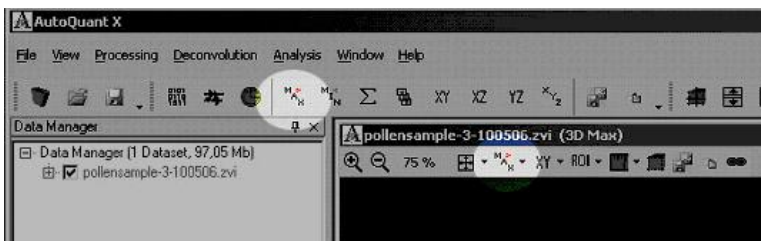

Figure 4. Selecting Maximum Projection
5. Now choose MAX PROJECTION from main menu bar (or alternatively from image window bar) (Fig. 4) for both stacks. **How do these images compare?**